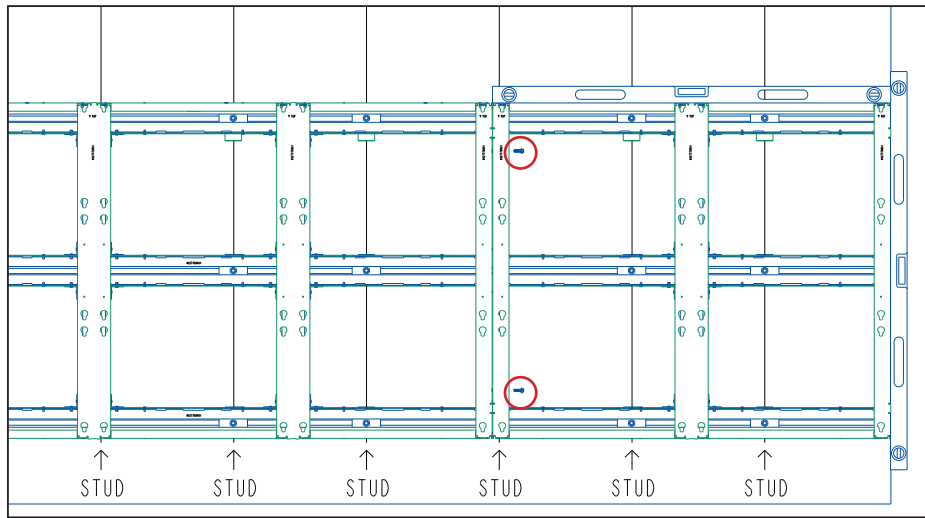

Figure 7: Install Stitch Bolts
2. Install the supplied stitch bolts (HC-1842). Refer to **Figure 7**.